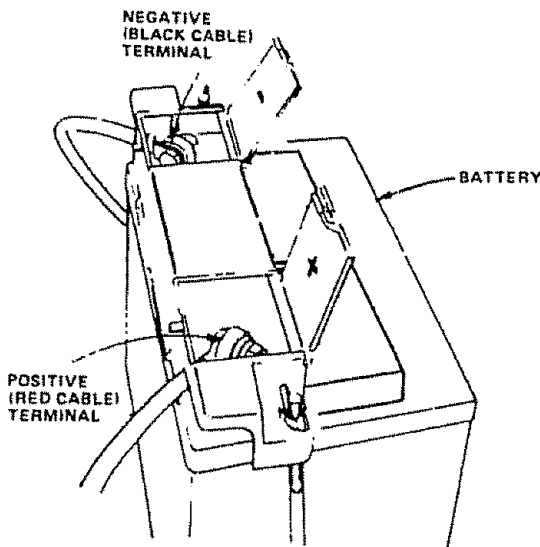

FIGURE 27
- Connect each end of the RED cable to the POSITIVE (+) terminals of each battery (taking care not to short against chassis) (Fig. 27).